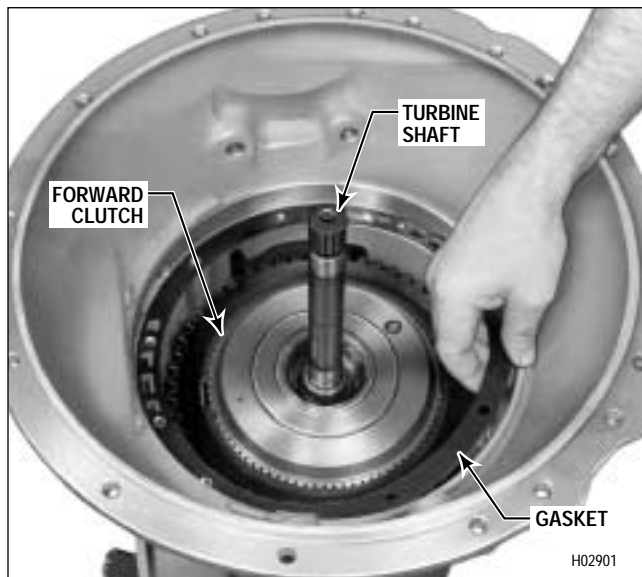

Figure 5-11. Removing Front Support Gasket (Models Without Retarder)
(7) Remove two hook-type sealrings 38 (Foldout 7,B) and thrust washer 37 from the pump assembly. Refer to Paragraph 6-7 for rebuild of the pump assembly.
(8) Remove the front support gasket (Figure 5-11 or 5-12).
(1) Grasp the turbine shaft (Figure 5-11) and lift out the forward clutch and turbine shaft assembly.
(2) Remove thrust washer 33 (Foldout 8) from the rear of the forward clutch assembly. Refer to Paragraph 6-9 for rebuild of the forward clutch and turbine shaft assembly.